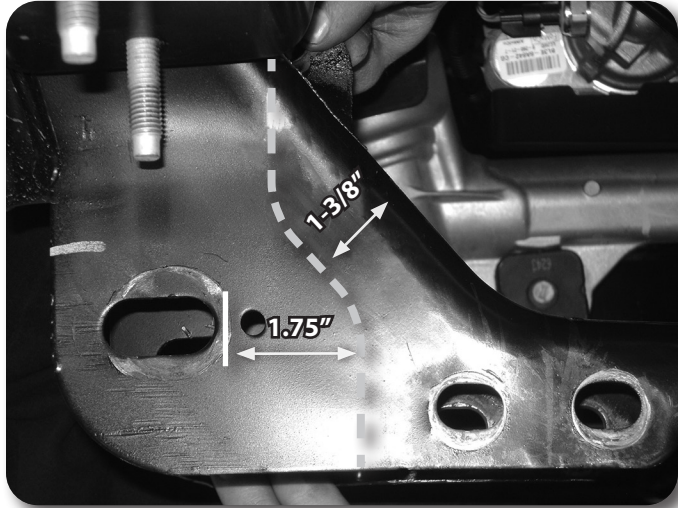

Figure 14
25. On the back side measure from the inside edge of the slot 1-3/4" and mark a vertical cut. Measure 1-3/8" in from the angled top surface and mark. Fig 14